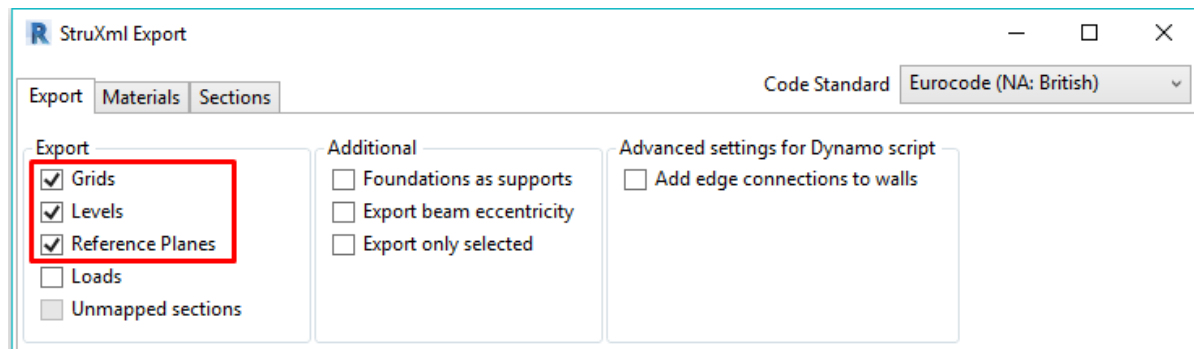

Figure III-23
- If the option to *Export Grids* (Figure III-23) is selected, all the grids will be exported to FEM-Design.
- If the option to *Export Levels* is selected (Figure III-23), all the levels will be exported to FEM-Design.
- If the option to *Export Reference planes* is selected (Figure III-23), all the reference planes will be exported to FEM-Design.
In order to export loads and load cases one should select the *Loads and load comb.* to be exported in the *StruXml Export* dialog, as shown in Figure III-23.